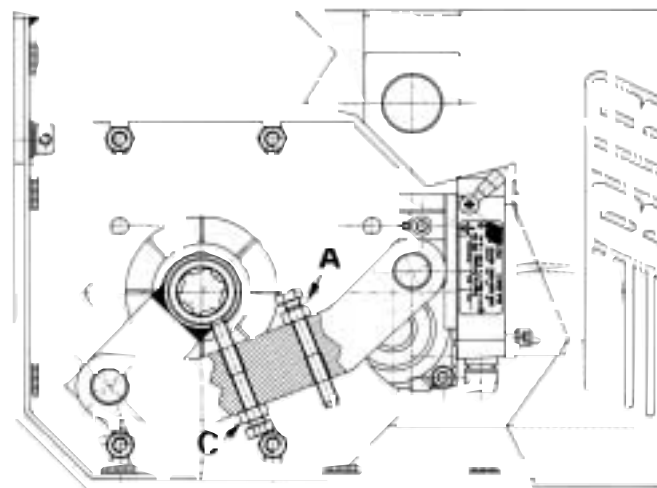

Fig. 11
- To adjust the travel limit for the opening movement of the gate, simply turn the screw (A) left or right as appropriate, then secure the lock nut to prevent the screw from slipping out of position subsequently (fig 11).